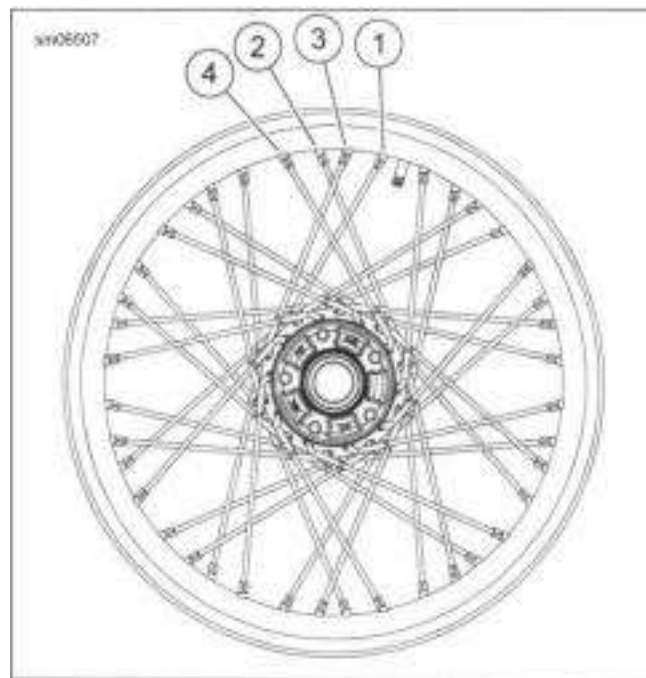

Figure 2-15. Tightening Laced Wheels (typical)
2. See Figure 2-15. Starting at the valve stem, identify the first group of four spokes (1-4).
1. See Figure 2-15. Starting with the first group of spokes, loosen spoke (1) one-quarter turn using SPOKE WRENCH (PART NUMBER: HD-94681-80).
2. Using SPOKE TORQUE WRENCH (PART NUMBER: HD-48985) tighten spoke (1) to the value listed in Table 2-8.
3. Repeat previous two steps for spoke (4) in the same group.